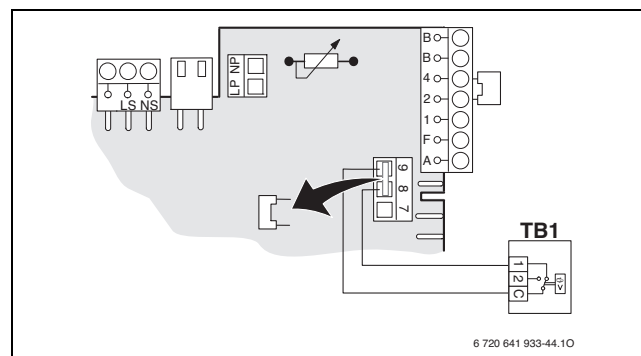

Fig. 49 Electrical wiring TB 1
- ▶ Connect the leads labeled SWITCH CONTACT (yellow) to the TB1 temperature switch (→ Fig. 49, page 45) on the Heatronic.